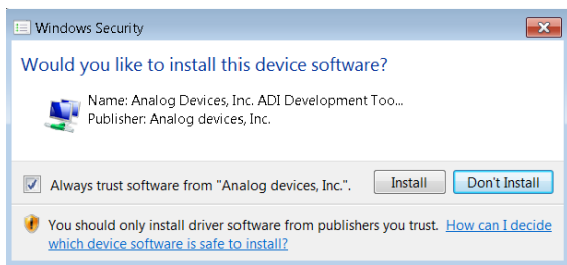
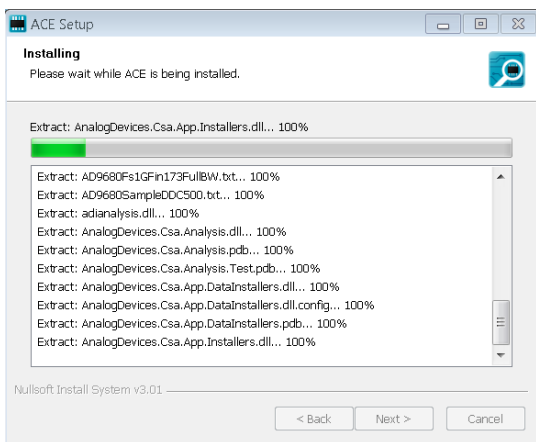

Figure 12. Windows Security Window
Figure 13. Installation in Progress
8. The **Windows Security** window opens (see Figure 12). Click **Install**. Figure 13 shows the installation in progress. No action is required.